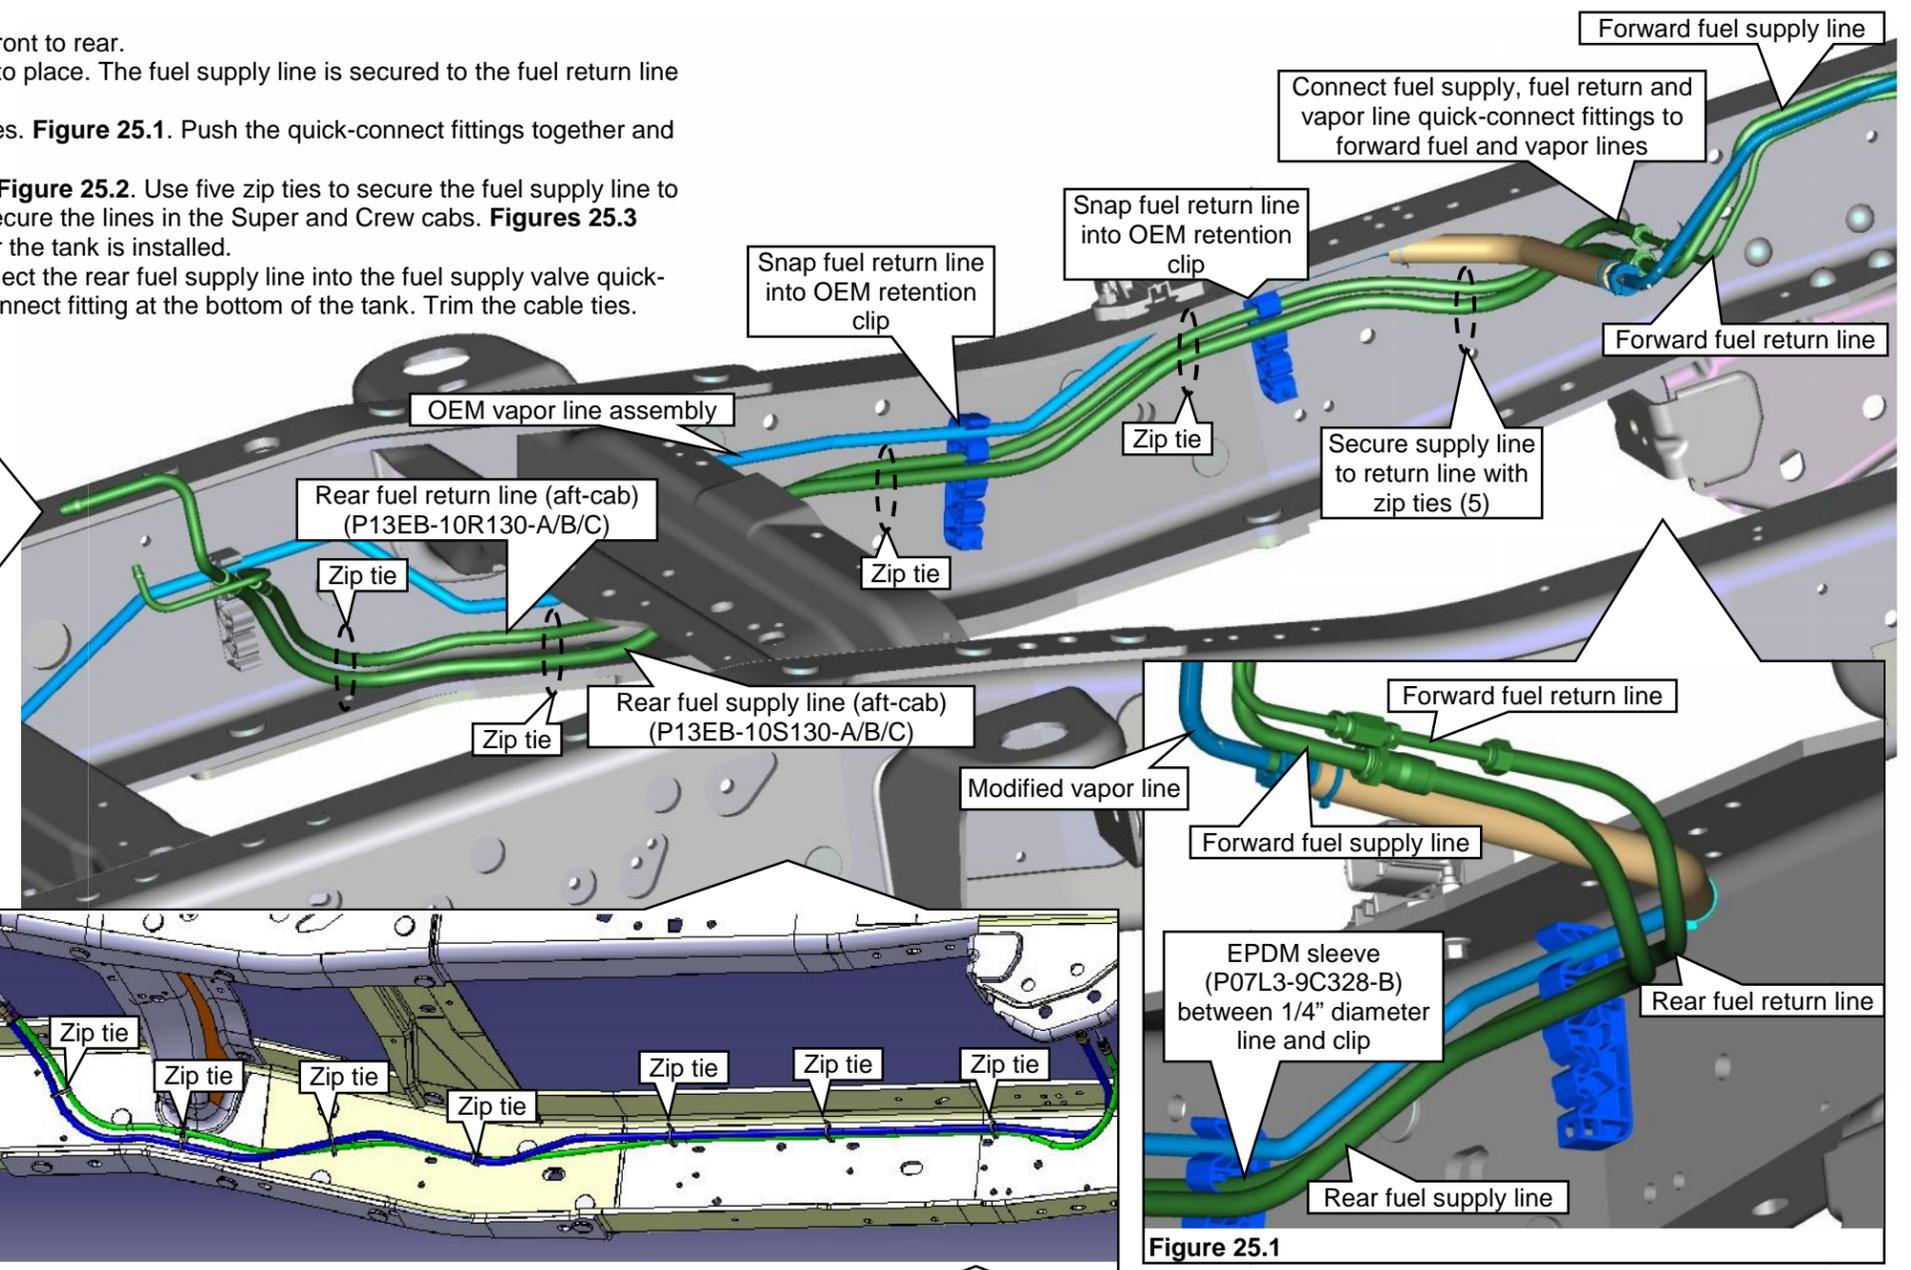

Figure 25.1
2. Attach fuel return line into OEM retaining clips (2) along frame rail and snap into place. The fuel supply line is secured to the fuel return line with zip ties.
3. Connect the rear supply and return lines into the forward supply and return lines. **Figure 25.1**. Push the quick-connect fittings together and make sure the connections are secure.